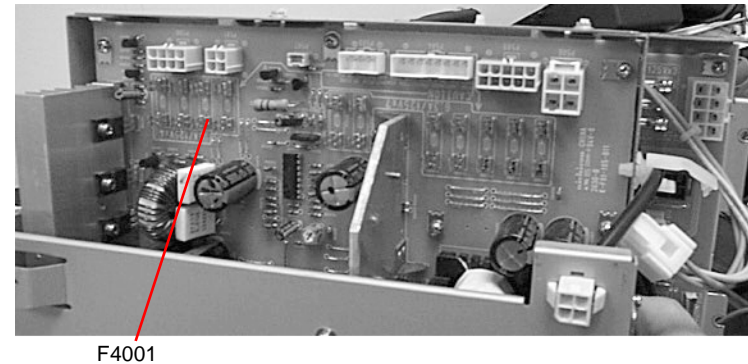

Figure 1 Main LVPS
- Check F4001 (Figure 1) on the Main LVPS for an open. Replace if necessary. If the fuse blows again, go to BSD 2.2 and wirenet 7.2.8 and check the +5 VDC (ESS) for a short circuit.